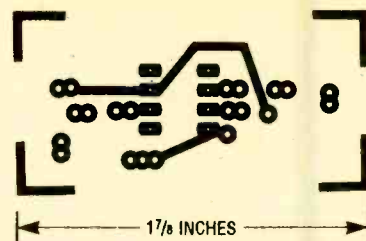

Fig. 3. Here's the printed-circuit pattern for the transmitter section of the communicator.
**Circuit Construction.** Since the transmitter and receiver circuits are so simple and parts placement is not critical, the circuits may be assembled using the technique that you are most comfortable with. But to reduce the likelihood of errors and make construction as simple as possible, printed-circuit patterns for the transmitter and receiver circuits are provided in Figs. 3 and 4, respectively.